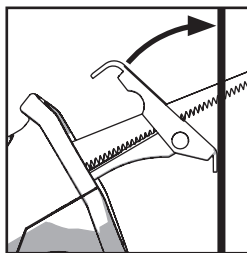

Fig. 7
- Hold the machine at an angle to the workpiece with the bottom edge of the workpiece contact plate resting firmly against the workpiece. (Fig. 7).